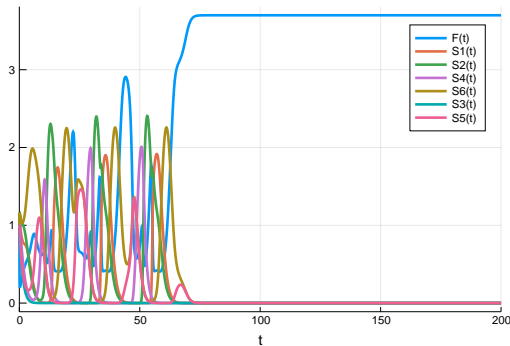

Figure 5: **Hypercycle for 6 species.** For $k_f < 3.8$ the dilution rate of the system is too high and the 6 replicators are washed out of the system.
12. Change the feeding rate k_f to $k_f = 3.7$ (Do you have an idea why the oscillation stops and the replicators die out see Figure 5 ?).